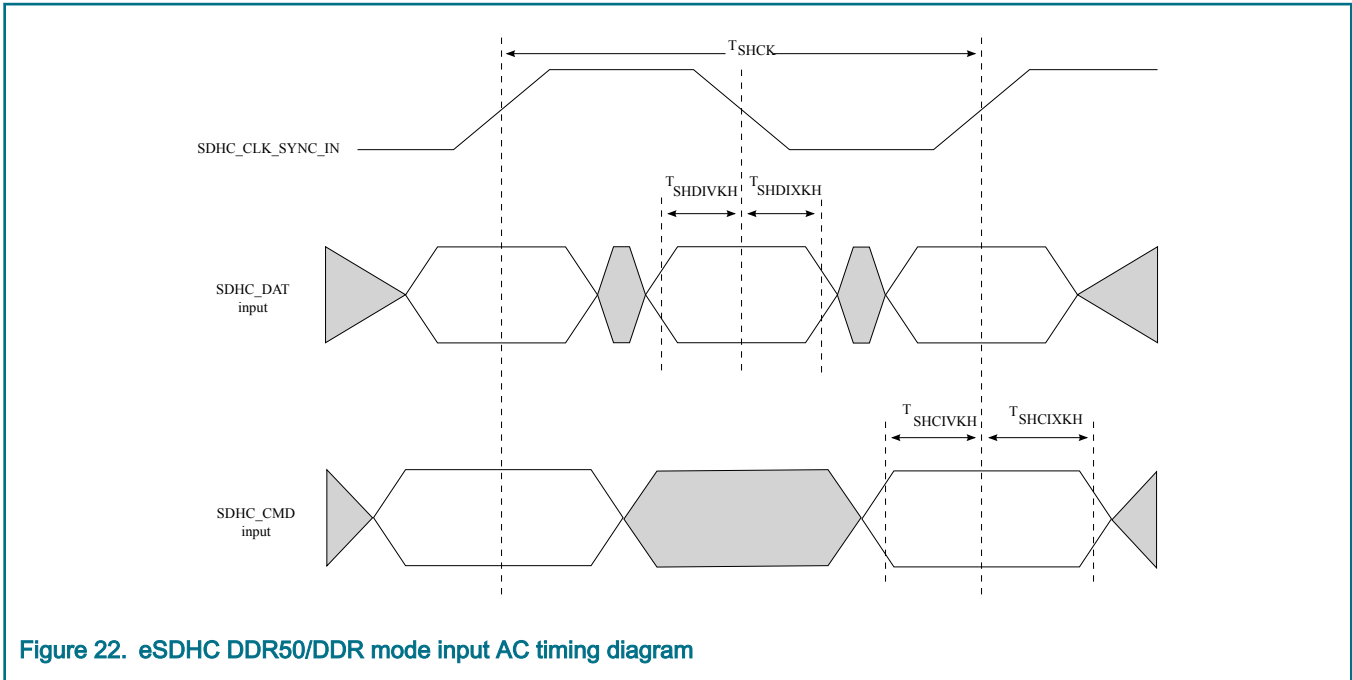

Figure 22. eSDHC DDR50/DDR mode input AC timing diagram
3. The symbols used for timing specifications herein follow the pattern of t(first two letters of functional block)(signal)(state) (reference)(state) for inputs and t(first two letters of functional block)(reference)(state)(signal)(state) for outputs. For example, tSHCKHOX symbolizes eSDHC highspeed mode device timing (SH) clock reference (K) going to the high (H) state, with respect to the output (O) reaching the invalid state (X) or output hold time. Note that in general, the clock reference symbol is based on five letters representing the clock of a particular functional. For rise and fall times, the latter convention is used with the appropriate letter: R (rise) or F (fall).
4. See Figure 22.
2. The symbols used for timing specifications herein follow the pattern of t(first two letters of functional block)(signal)(state) (reference)(state) for inputs and t(first two letters of functional block)(reference)(state)(signal)(state) for outputs. For example, tSHKHGX symbolizes eSDHC highspeed mode device timing (SH) clock reference (K) going to the high (H) state, with respect to the output (O) reaching the invalid state (X) or output hold time. Note that in general, the clock reference symbol is based on five letters representing the clock of a particular functional. For rise and fall times, the latter convention is used with the appropriate letter: R (rise) or F (fall).
3. See Figure 22.